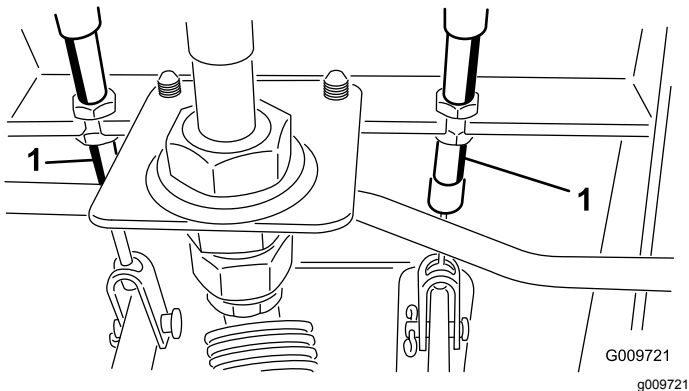

Figure 53
- A. Loosen the front nut on the threaded end of the brake cable (Figure 53).